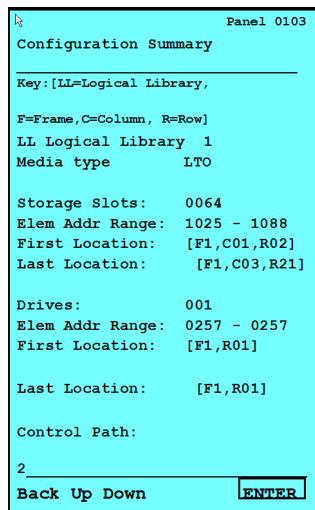

Figure 2-45 IBM TS3500 operator panel: Configuration Summary
12. The Configuration Summary panel for Logical Library 1 is displayed (Figure 2-45). The panel contains the range of SCSI element addresses for the cartridge storage slots and the drives.